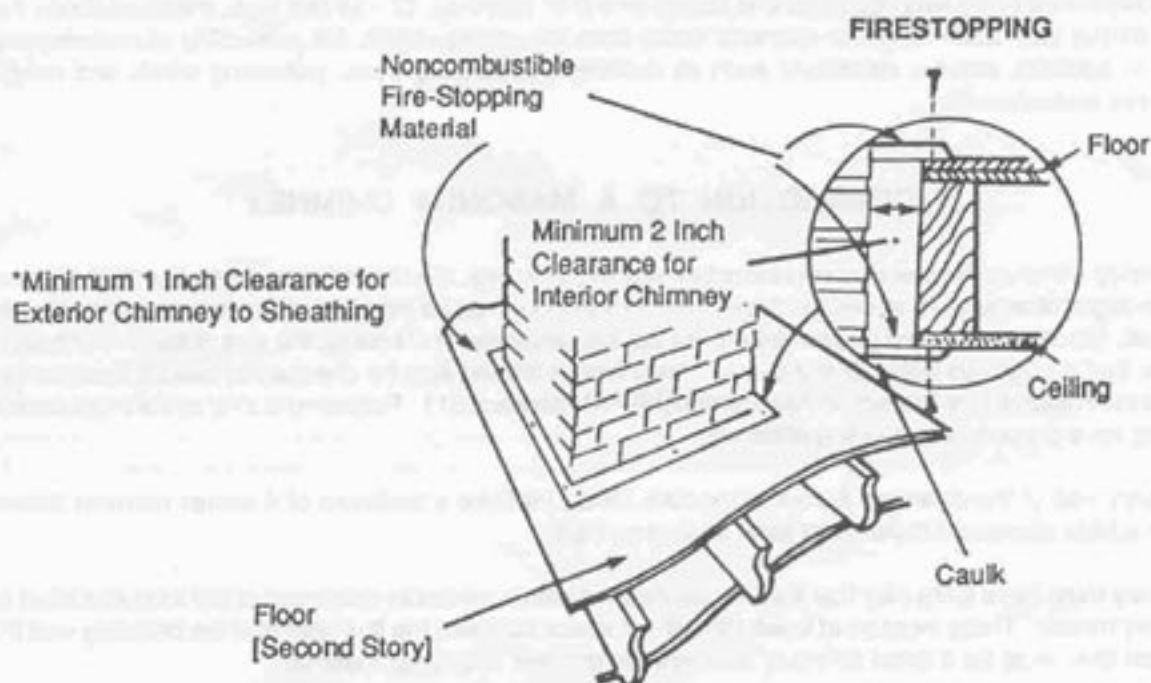

Figure 5
- A chimney inside the house must have at least 2 inches of clearance to the combustible structure. A chimney outside the house must have at least one inch clearance to the combustible structure. Fire stops must be installed at the spaces where the chimney passes through floors and/or ceiling (FIGURE 5).
The chimney must be the required height above the roof or other obstruction for safety and for proper draft operation. The requirement is that the chimney must be at least 3 feet higher than the highest point where it passes through the roof and at least 2 feet higher than the highest part of the roof or structure that is within 10 feet of the chimney, measured horizontally (FIGURE 5).